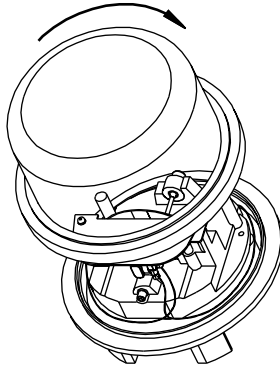

Figure 47. Replacing Cover
9. Ensure all wires are clear of operational parts and replace the cover by screwing it back on in a clockwise direction. See Figure 47.